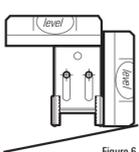
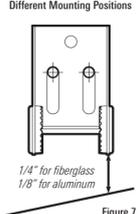

Figure 6
Figure 7
2. Hold the mounting bracket against the transom of the boat in the location you have selected (Figure 6). Align the bracket horizontally, using the level. Make sure that the lower corner of the bracket does not protrude past the bottom of the hull, and there is at least 1/4" (6 mm) clearance between the bottom of the bracket and the bottom of the transom for fiberglass boats, and 1/8" (3 mm) clearance for aluminum boats (Figure 7).